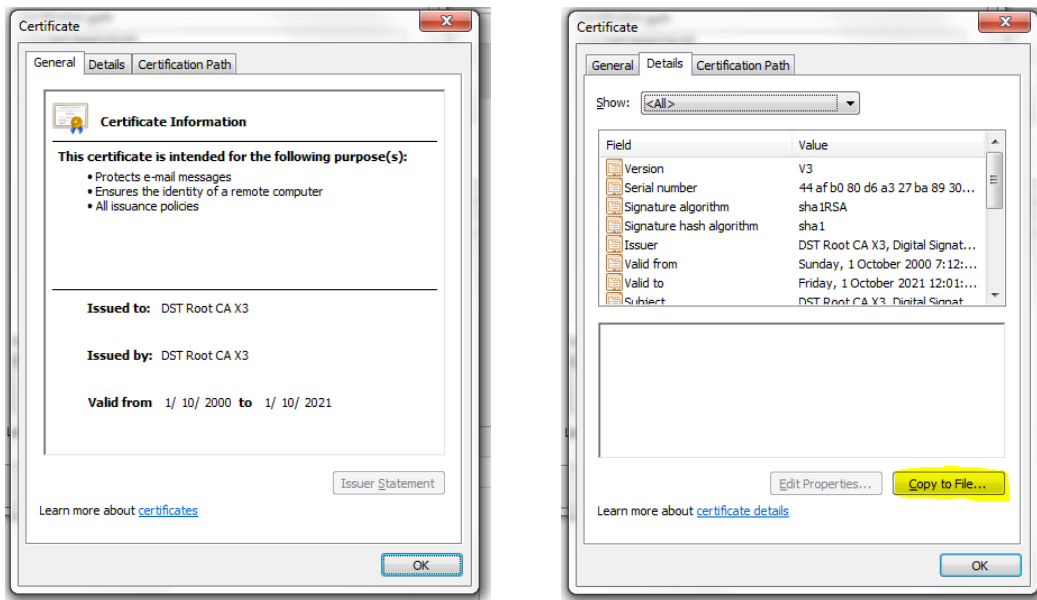

FIG. 464 Certificate Information - Copy to File
5. Go to the **Details** tab for the newly opened Certificate window and click **Copy to File ...** (FIG. 464):